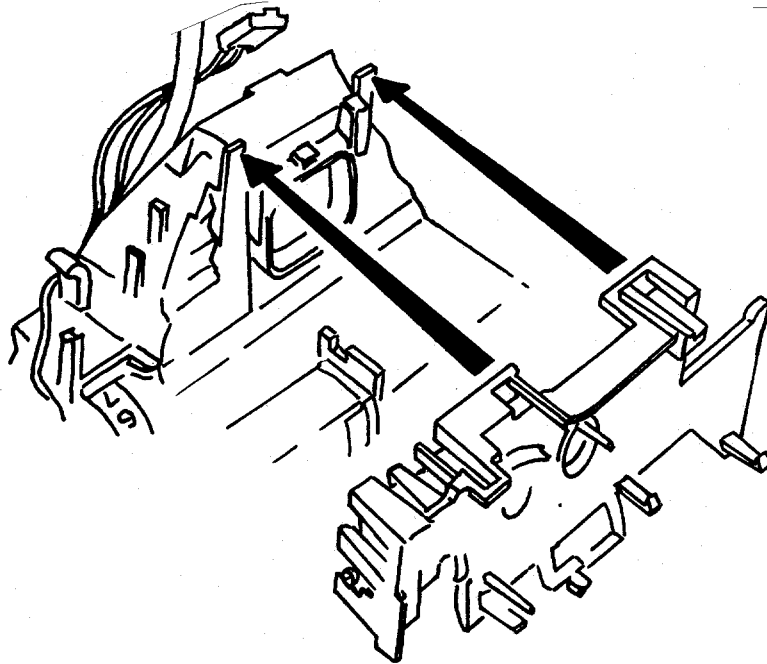

Fig. 29 Remounting Base Block on Cone
33. Remount the Base Block on the Cone by positioning the two openings at the top of the Base Block over the corresponding projections on the Cone (see Fig. 29), then rotating the Base Block down into position until the locking tangs near the Counter Wheel and Motor snap shut.